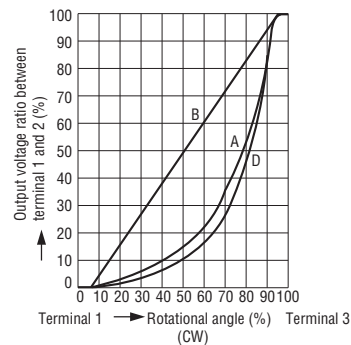

Fig.1
- B characteristic: Change linearly as shown in Fig. 1, B
- D characteristic: Change logarithmic as shown in Fig. 1, D